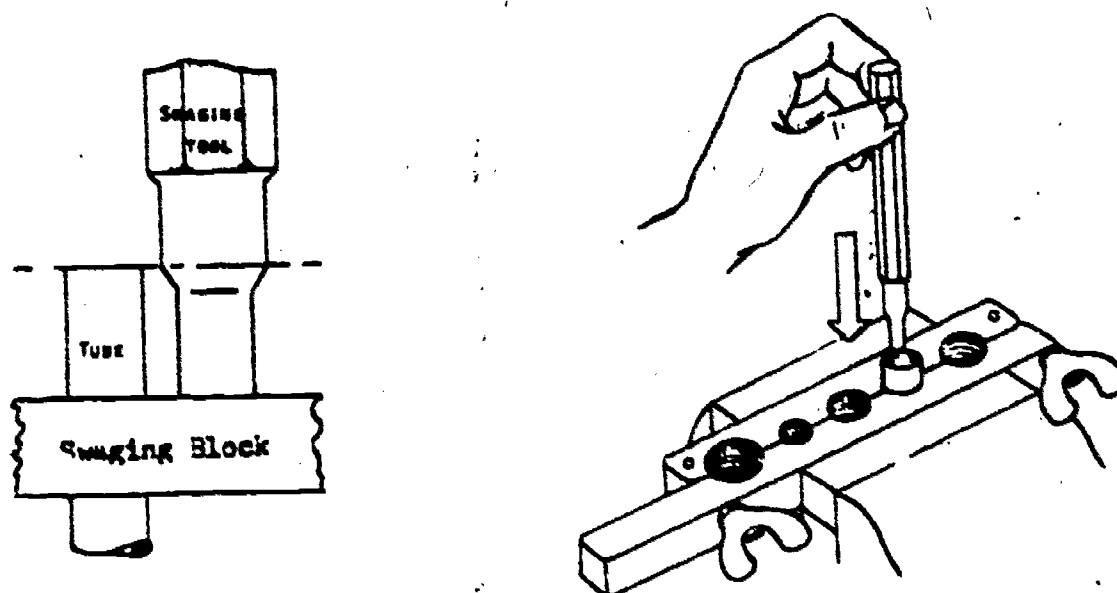

Figure 61. Swaging Block
3. Extend tube above block a distance equal to the distance from the bottom of the swaging punch to the top of the bevel, as illustrated in figure 61.